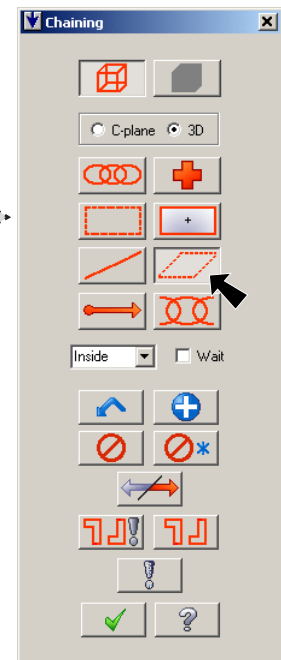

Fig. 32
Step 2. Click the **Polygon**  in Chaining dialog box, Fig. 32.